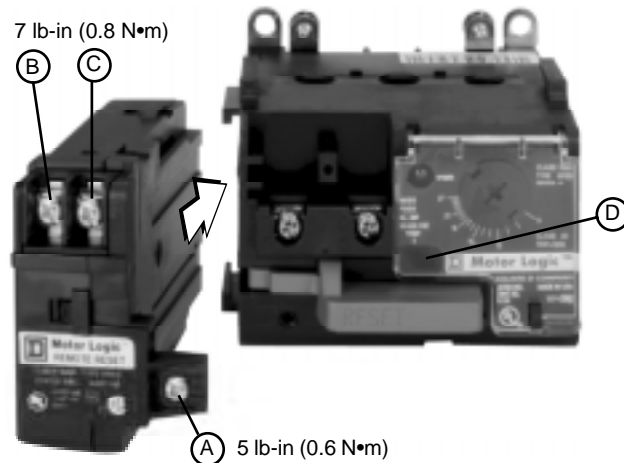

Figure 1 Remote Reset Installation
2. Slide the module onto the overload relay (see Figure 1). The bottom of the module mounting tab must be flush with the housing of the overload relay.
3. Tighten the remote reset mounting screw (A) to 5 lb-in (0.6 N•m). Excessive torque could damage the mounting tab and affect the module's performance.
4. Press the remote, momentary-action push button. If the reset module is properly installed, the overload relay will reset when the push button is pressed and the yellow flag in the trip indicator window (Item D in Figure 1) disappears.
The maximum recommended wire run length for the module is 150 ft (46 m) for dry environments. A transient suppression module (Class 9999 Type ST1) should be wired across the remote reset device terminals (B and C Figure 1) to achieve this distance for wet wire environments.